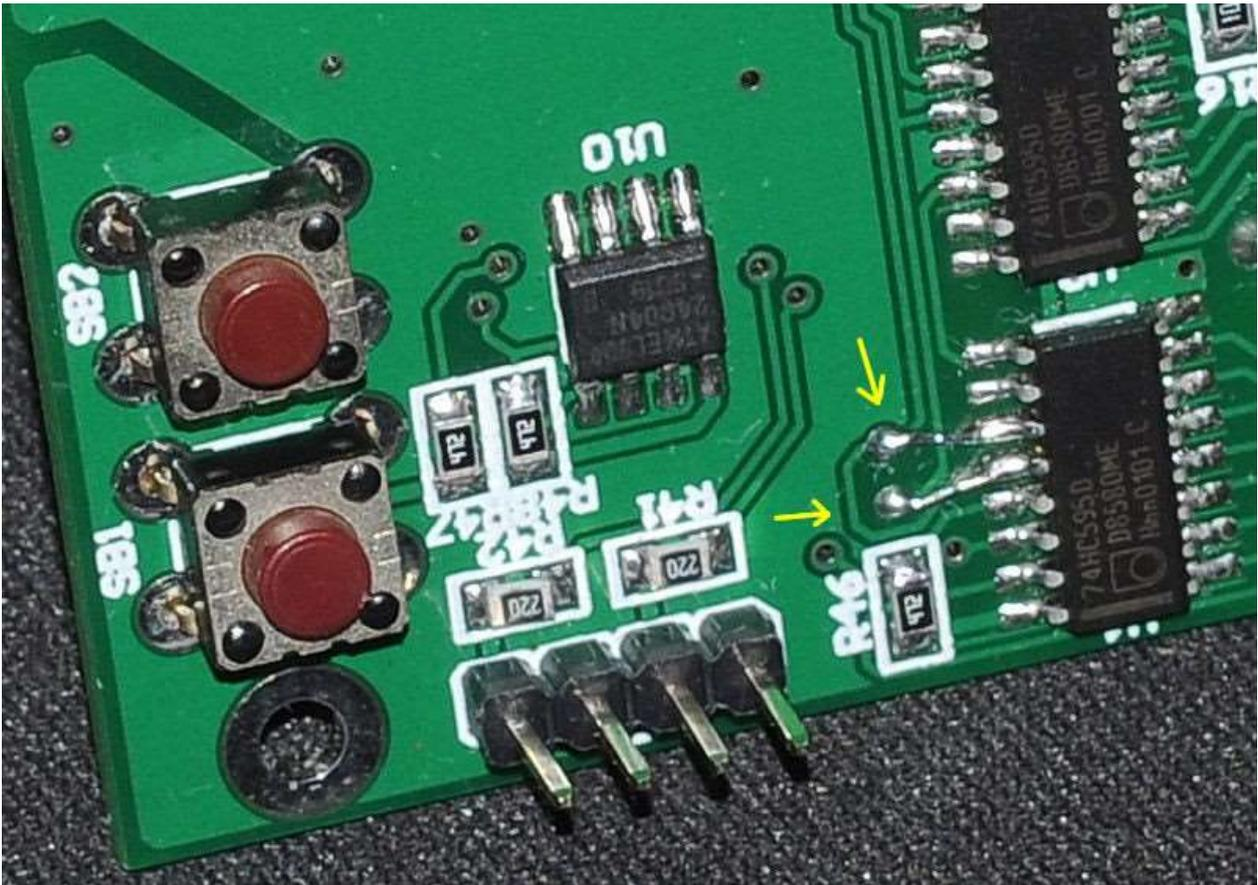

Fig. 1.
1. There is an error in the schematic of the front panel – pins 11 and 12 of register U4 are mixed up. It is corrected by jumpers, the necessary vias are located next to it (Fig. 1). Pin tracks 11 and 12 are trimmed before jumpers are installed.